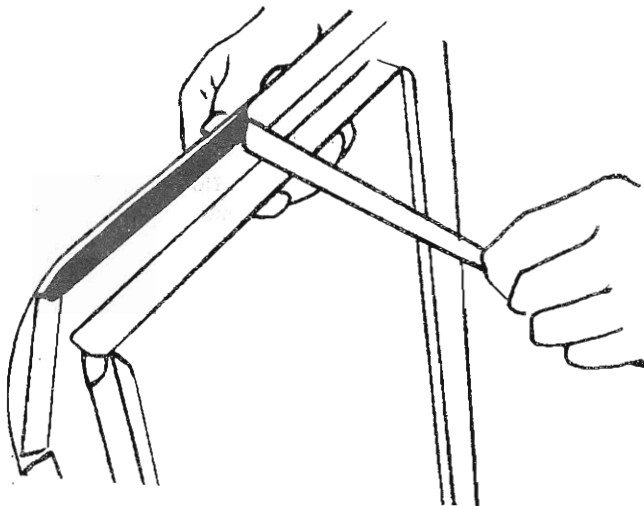

FIGURE 3
3. Peel off the protective wax paper from the adhesive on bottom of roof flashing. See Figure 3.